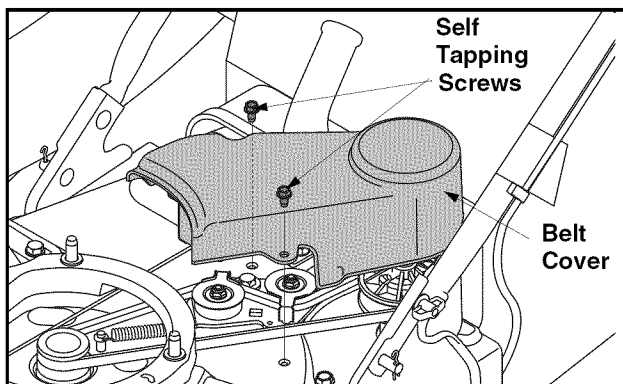

Figure 19
- Remove the two self tapping screws securing the belt cover, and remove the belt cover. See Figure 19.